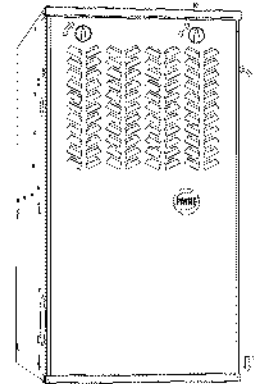

Fig. 9 - Furnace Door Replaced
6. Replace the outer furnace door. (See Fig. 9.)